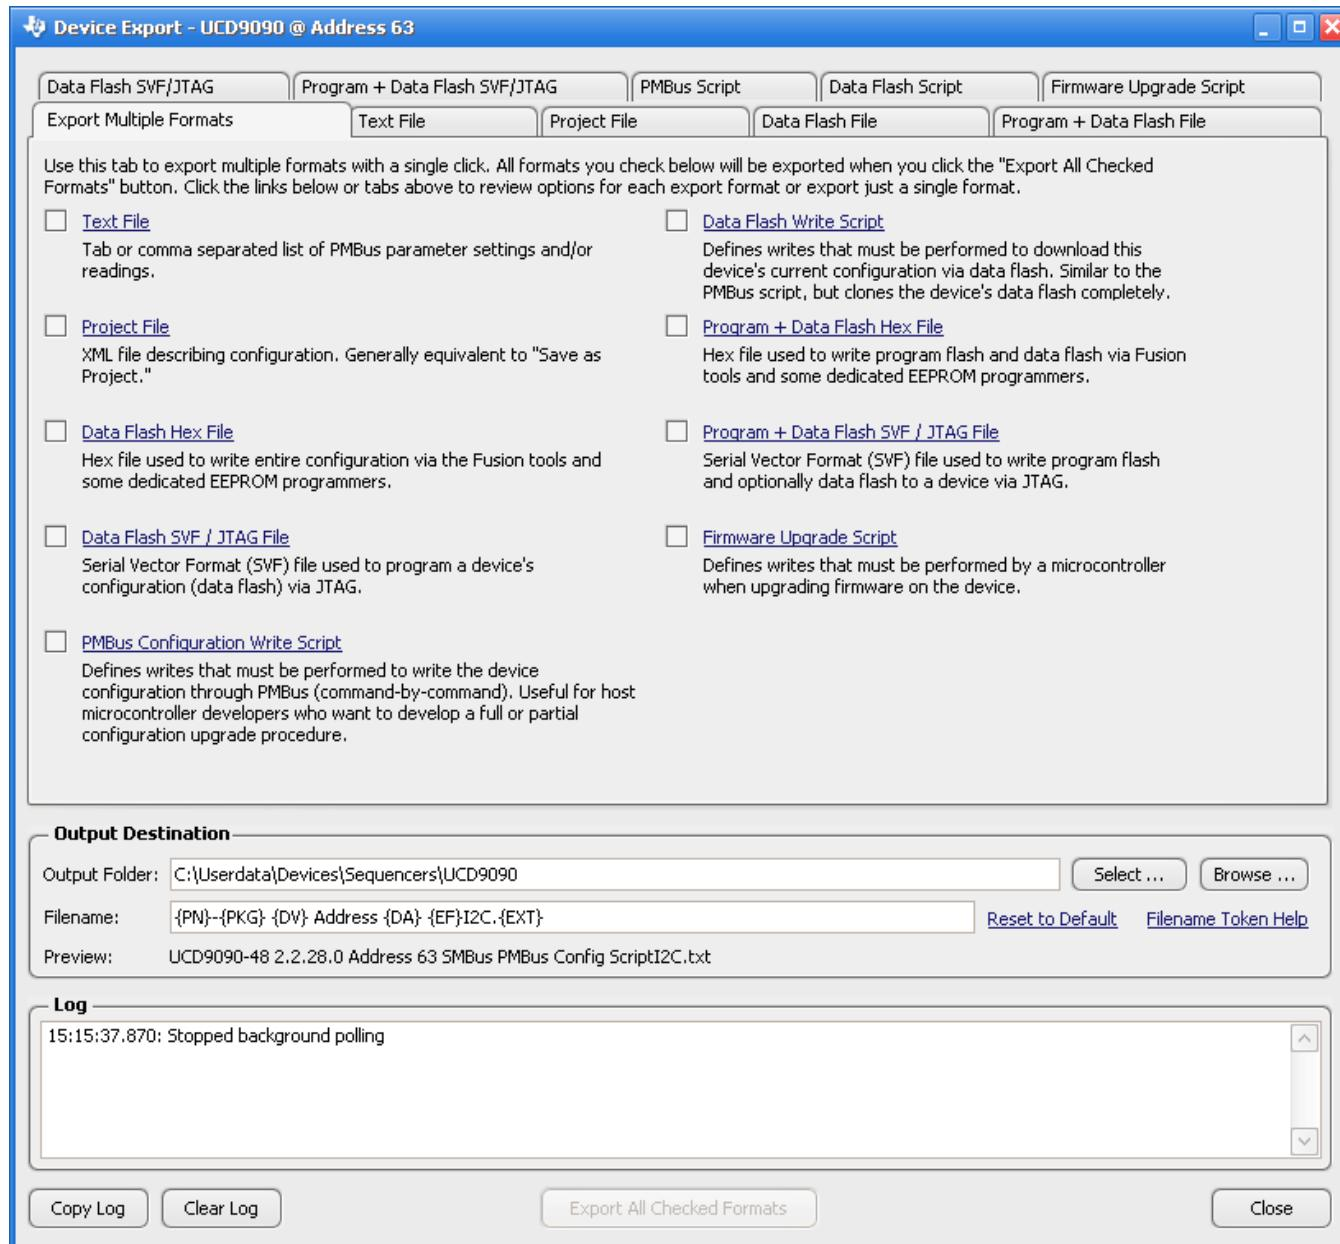

Figure 31. Fusion GUI Device Configuration Export Tool
3. Another in-circuit programming option is for the *Fusion GUI* to create a data flash image from the configuration file (Figure 31). The configuration files can be exported in Intel Hex, Serial Vector Format (SVF) and S-record. The image file can be downloaded into the device using I²C or JTAG. The *Fusion GUI* tools can be used on-board if the *Fusion GUI* can gain ownership of the target board I²C bus. It is recommended to use Intel Hex file or data flash script file for production programming because the GPIOs are under